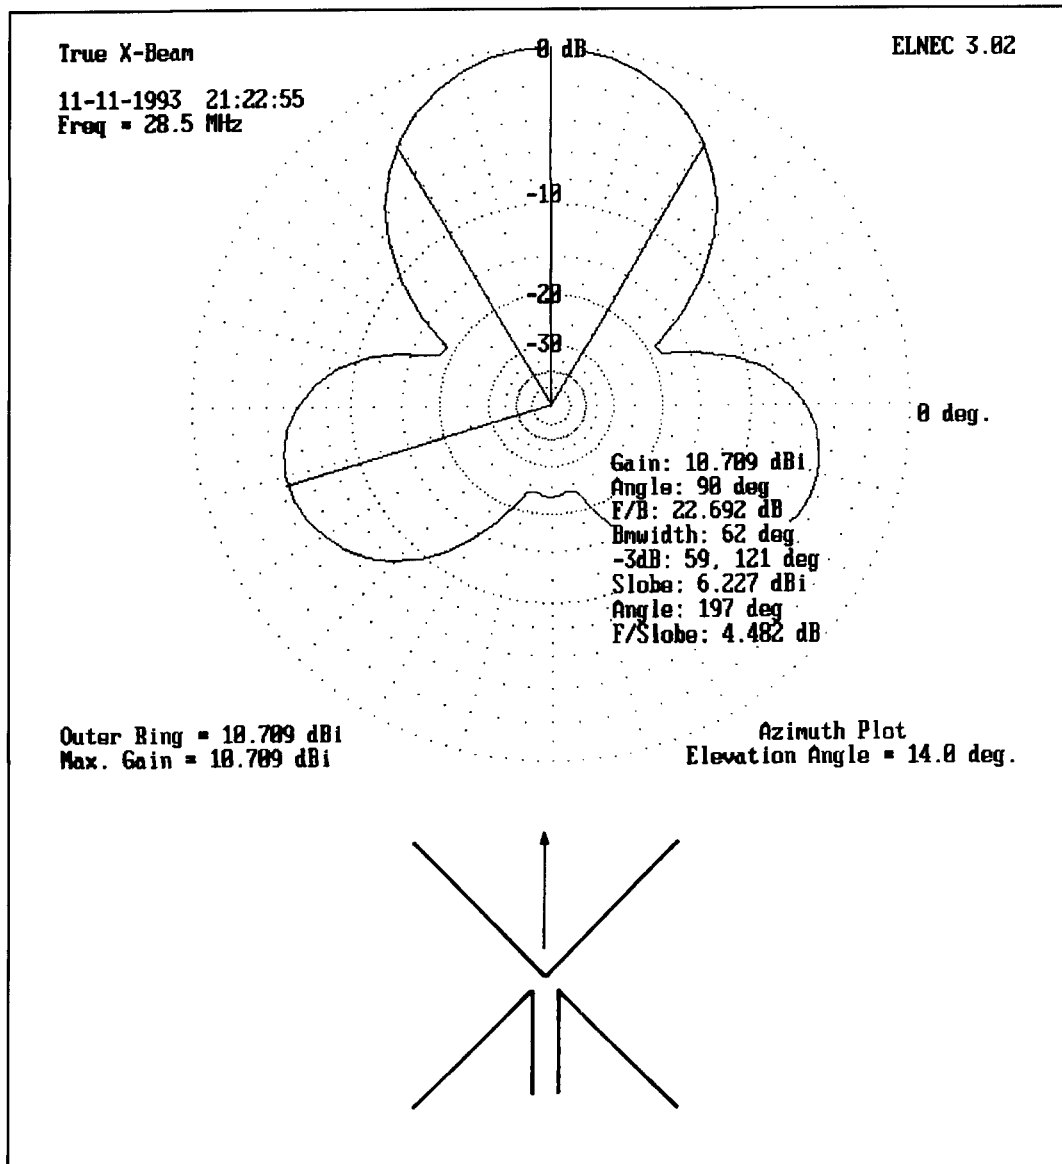
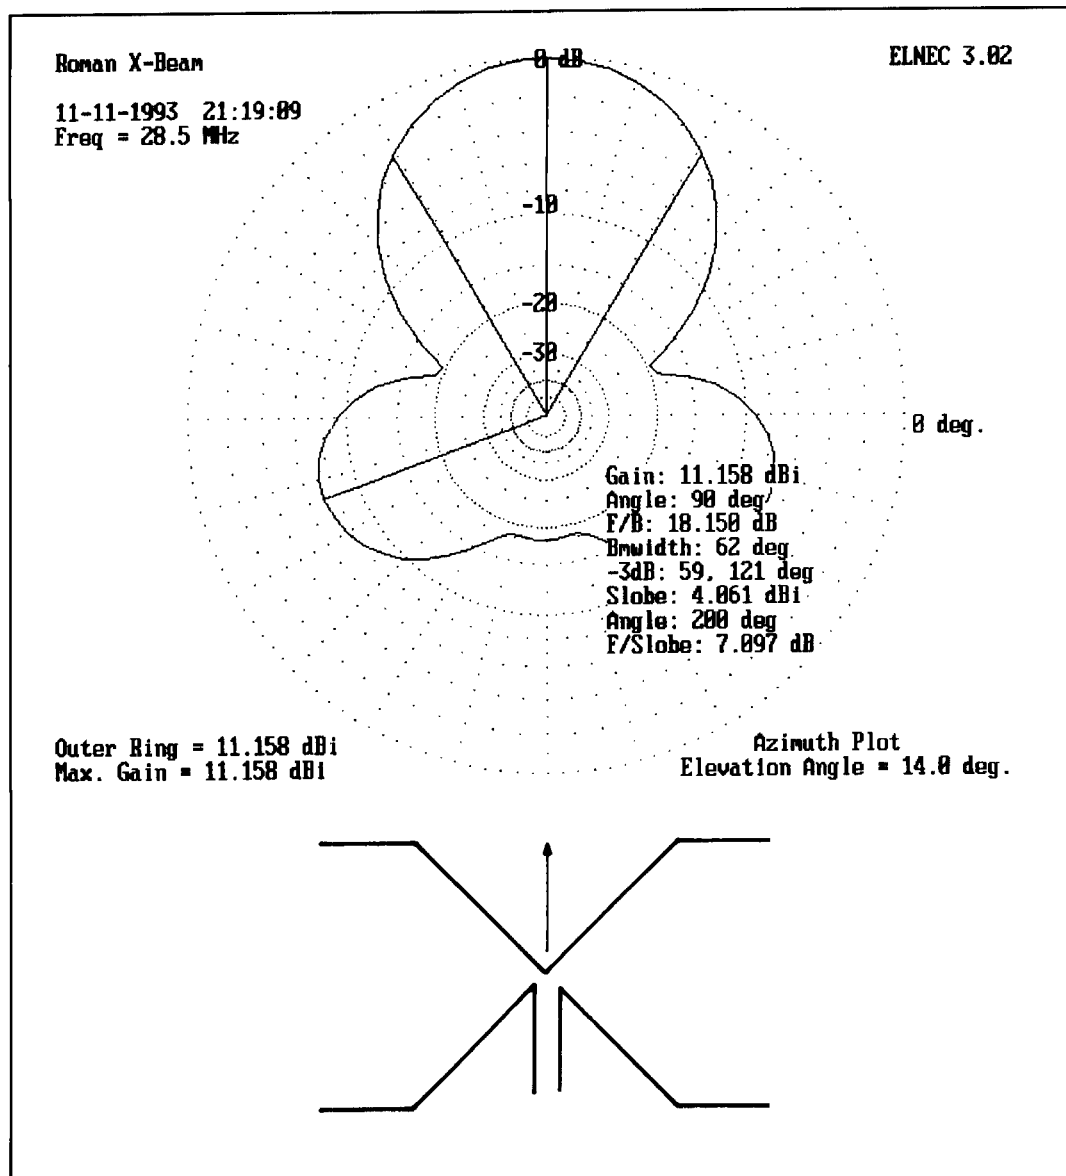

Figure 2. TRU-X beam configuration and azimuth pattern at 35 feet above average earth.
Figure 3. Roman-X beam configuration and azimuth pattern at 35 feet above average earth.
X), as shown in **Figure 2**, and alter the dipole pattern to show a bit of gain in a favored direction. With over 3 dB gain above a dipole in the same setting (35 feet in **Figure 2**), the Tru-X might be a useful beam were it not so large and were the pattern something less than a 3-leaf clover. The side lobes are only 4 dB down from the main lobe, inviting QRM.[†]
Now, let's bend back the ends of the X-elements to form a Roman X, as shown in **Figure 3**. This simple act pushes the side lobes toward the back, reduces them, and increases forward gain. A comparison of the patterns in **Figure 2** and **Figure 3** reveals the differences. Forward gain can improve by up to 1 dB over the Tru-X, while the side lobes are down 7 dB from the main lobe. However, as **Table 2** shows, the Roman-X is a big antenna relative to these marginal improvements. Both the Tru-X and the Roman-X beams are, in general, about the same breadth as, but unequal in performance to, a standard 2-element Yagi. **Table 2** compares the dimensions for the X configurations and for the Yagis.